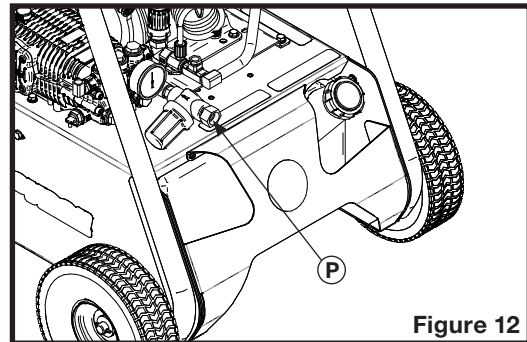

Figure 12
1. Connect a water supply hose to the pump inlet (P on figure 12) and open the hose valve. The supply hose flow rate must exceed the pump flow rate and the pressure must be at least 30 psi but must not exceed 80 psi.